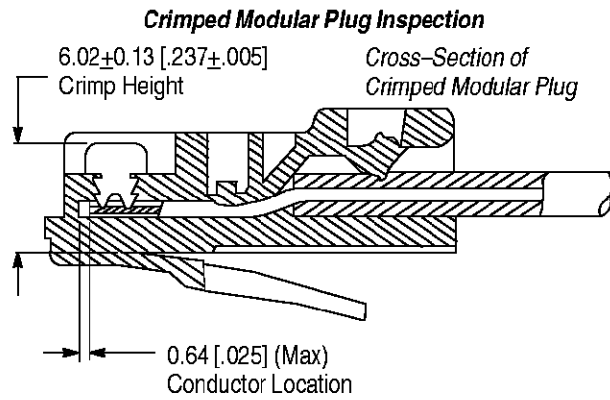

Figure 5
5. Figure 5 shows a cross-section of a typical terminated plug—proper crimp height dimension and required location of the conductors. A visual inspection through the plastic housing of the plug should reveal whether the conductors are within acceptable range.